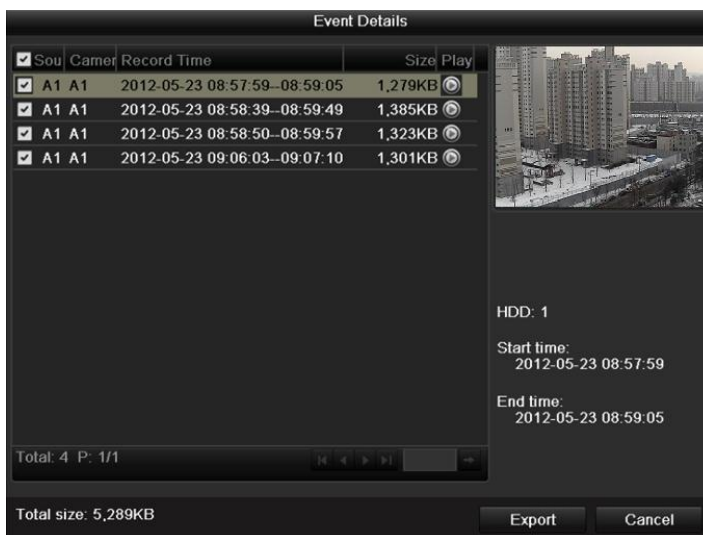

Figure 7.14 Event Details Interface
- Select motion detection event (s) from the list and click **Quick Export** button to enter the Export interface, as shown in Figure 7.14.
- (1) Click the **Details** button to enter the interface with detailed information of the record file, e.g., start time, end time, file size, etc.
(2) Select record file (s) from the list and click **Export** button to enter the Export interface, as shown in Figure 7.14.